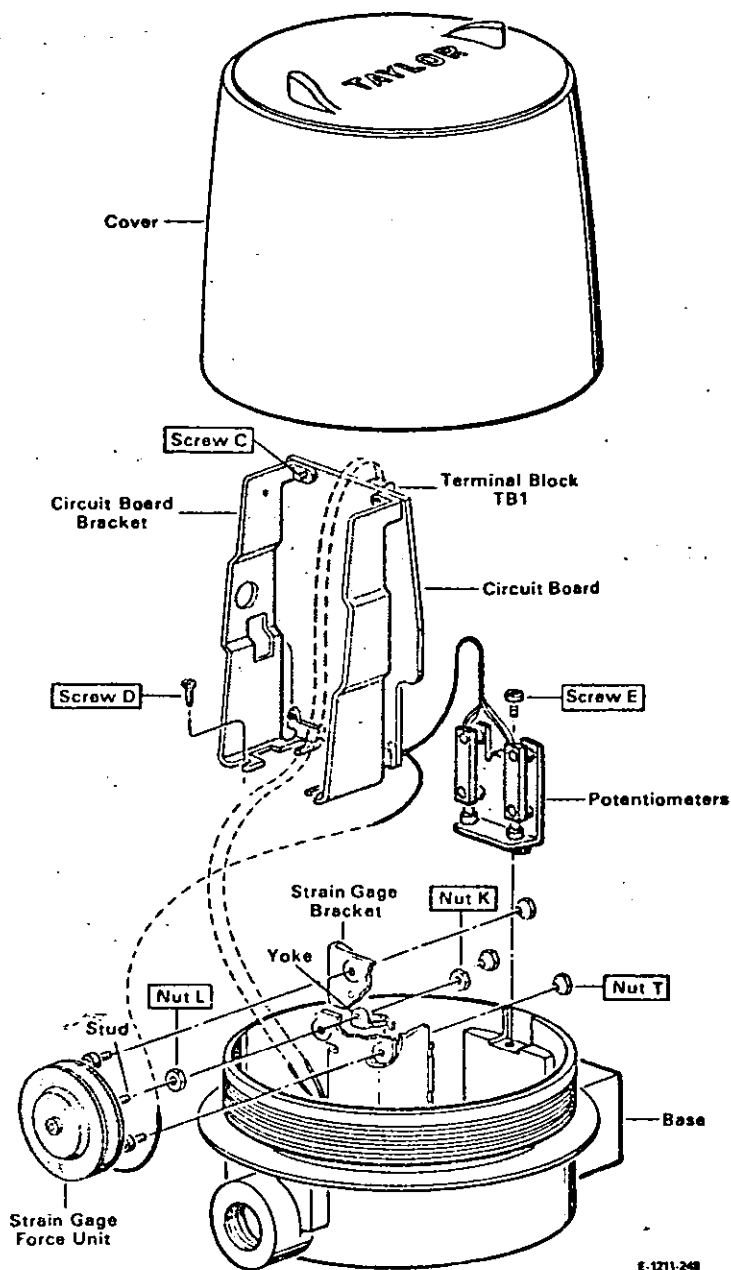

Figure 20. Replacing Electronics on Transmitter with Threaded Cover
- b. Threaded Cover — Loosen four screws D and lift circuit board bracket out of base, Figure 20. Remove board from bracket.